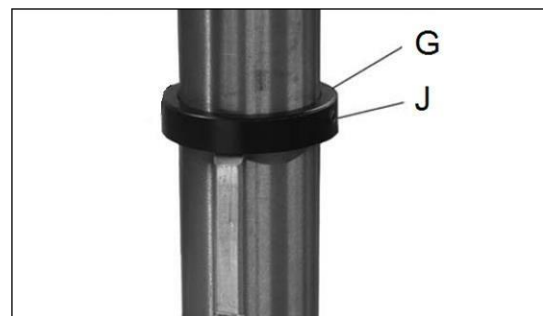

Fig 9
Place the stop collar (G, Fig 9) onto the column and slide it down. Tighten set screw (J).